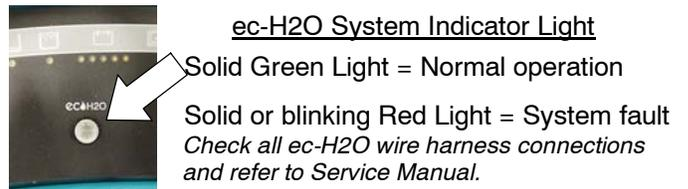

Fig. 41
4. Press the ec-H2O system button to the on (I) position.
5. The ec-H2O system indicator light will turn on when the propel pedal is pressed (Figure 41).